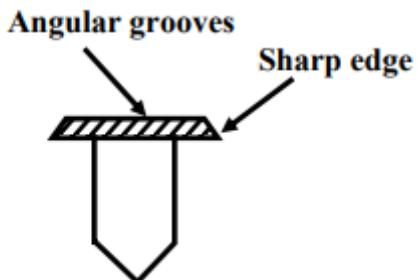

Fig. 9 Construction of a float
- A typical construction of the float is shown in fig. 9. The top section of the float has a sharp edge and several angular grooves. The fluid passing through these grooves, causes the rotation of the float. The turbulence created in this process reduces the viscous force considerably.